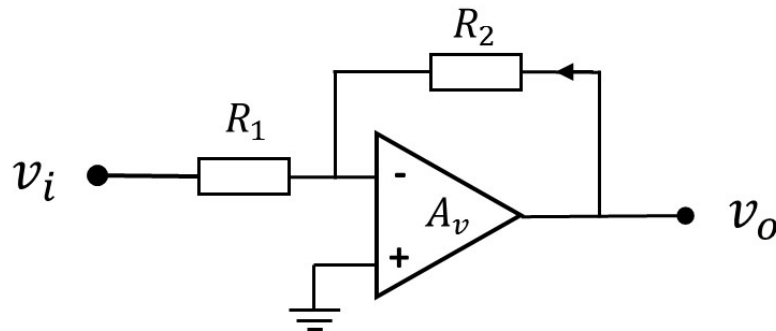

Figure 6.1 Inverting amplifier
Figure 6.1 shows a circuit diagram of an inverting amplifier based on an op-amp (the power supply connections to the op-amp have been omitted).
- a. Starting from the circuit diagram of Figure 6.1, derive an expression for the gain of the amplifier in terms of the circuit resistors. You may assume that the op-amp gain $\rightarrow \infty$. (6)
- b. Calculate values of R_1 and R_2 to give an overall gain of -100 and an effective input impedance of $10\text{k}\Omega$. (2)
- c. The input voltage v_i is produced by a source with an output impedance of $2\text{k}\Omega$. Calculate the change in the effective voltage gain between the source voltage and the inverting amplifier output which is introduced by this combination of source impedance and the inverting amplifier input impedance of $10\text{k}\Omega$. (2)
- d. Suggest one means of overcoming the problem highlighted in part (c) which does not involve changing the values of resistor. Draw the additional circuit elements that would be introduced into the system. (3)
- e. If the gain of the op-amp is in fact 5×10^4 , calculate the effective gain of the inverting amplifier stage of Figure 6.1. (3)
- f. The circuit of Figure 6.1 is to be modified to include another input voltage, v_2 , with the overall amplifier output now given by: